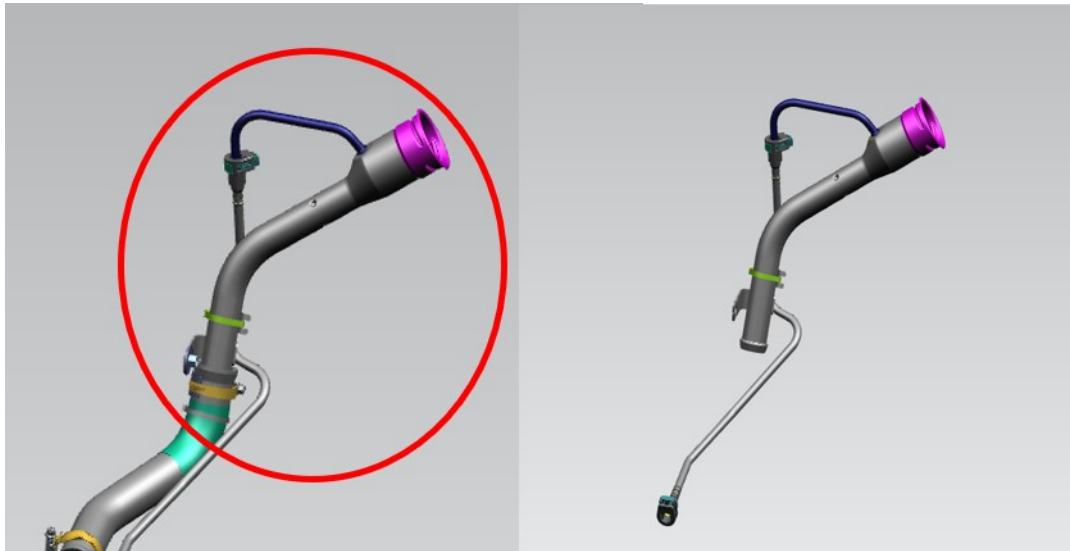

Fig. 1
1. Remove and discard the fuel filler cap from the upper filler tube (Fig. 1) .
2. Install the new fuel filler cap on the filler tube (Fig. 1) .